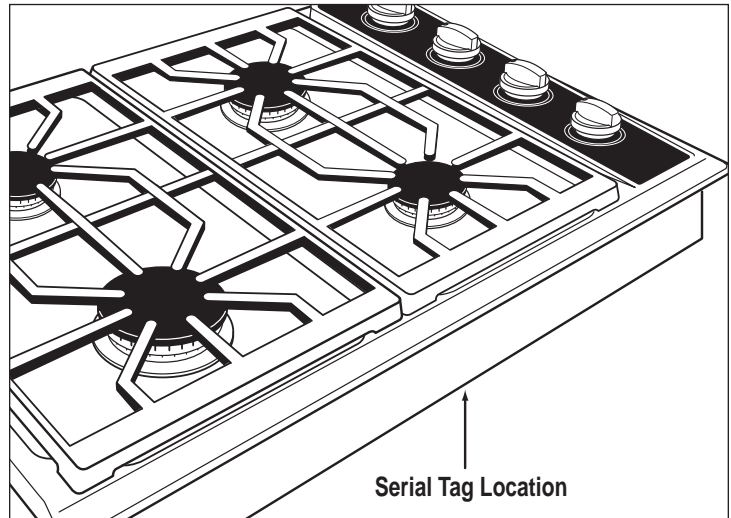

Figure 1-1 The serial tag is located on the bottom of the cooktop.
- See Figure 1-1 for serial tag location.